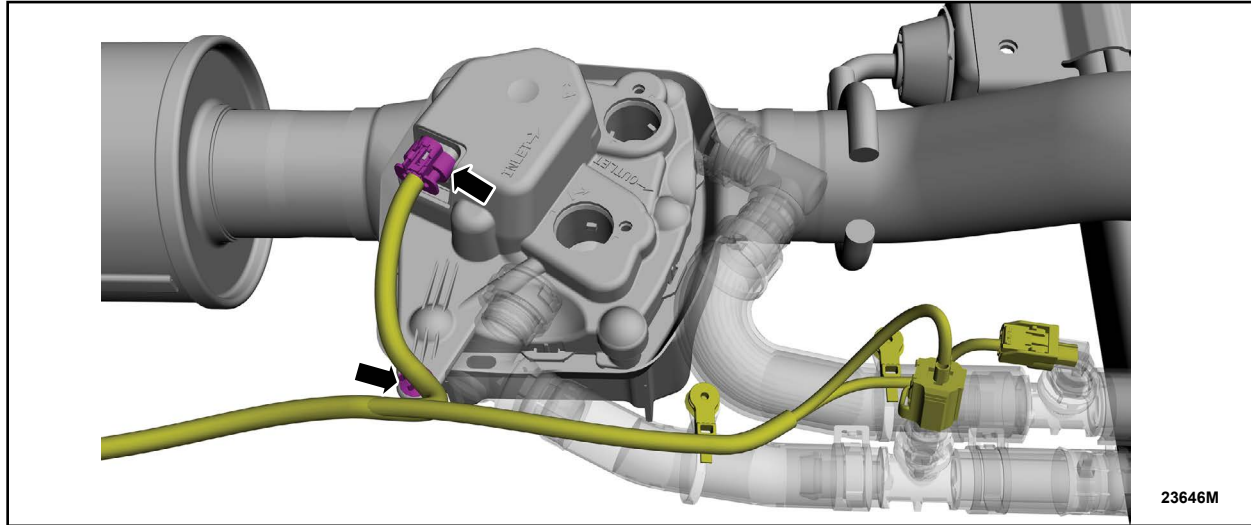

FIGURE 12
12. Connect the electrical connector and install the wire retainer. See Figure 12.